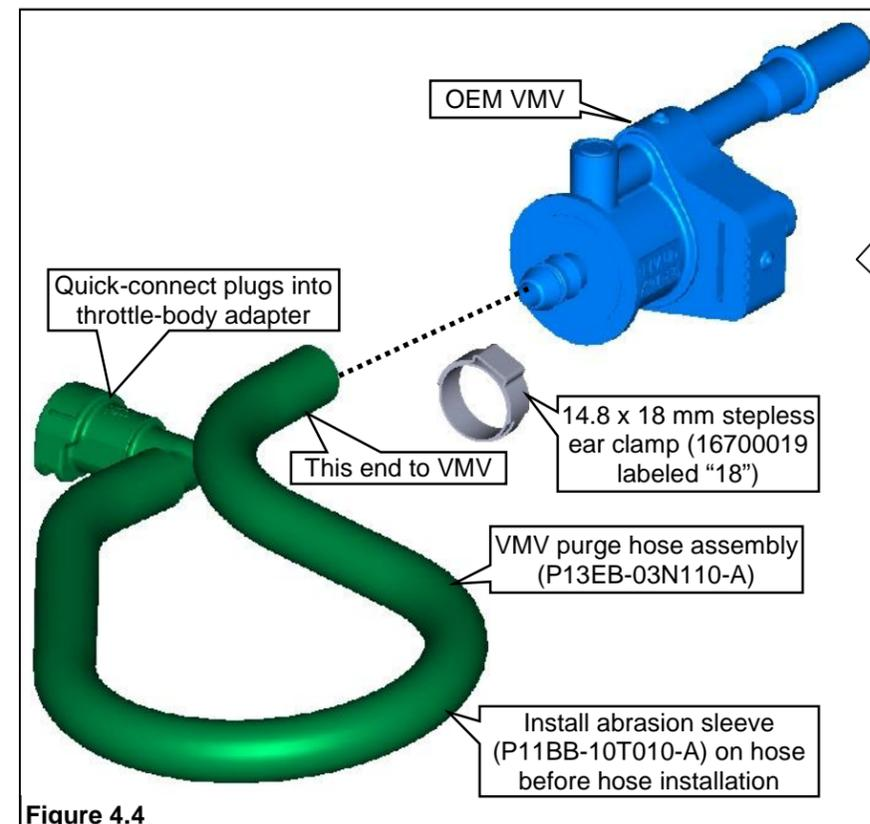

Figure 4.4
7. Slide the abrasion sleeve onto the VMV engine purge hose. Connect the VMV engine purge hose assembly to the VMV and secured with a stepless ear clamp (labeled "18"). **Note:** This clamp should NOT be tightened until after the orientation between the VMV and hose is correct with the assembly installed. **Figure 4.4.**